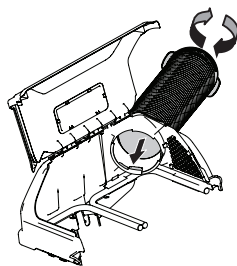

Figure 24
1. Thread the upper end of the chute tube securely into the upper chute support. There are two tabs on the lower inside part of the upper chute support to allow for secure threading. See Figure 24.